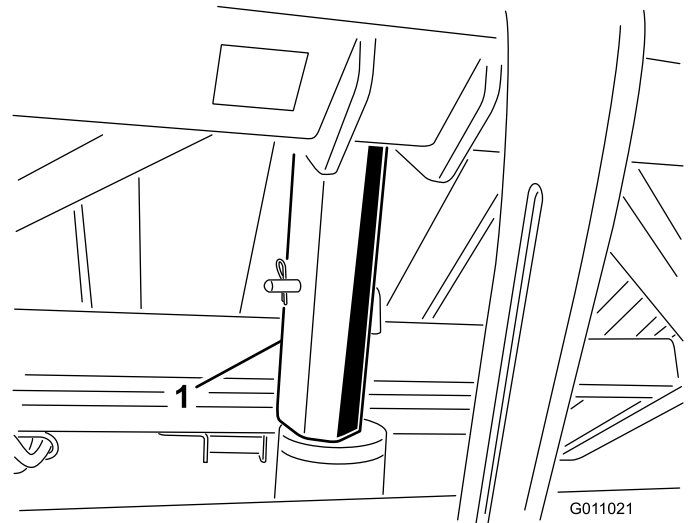

**Figure 25**
2. Remove the hairpin cotter and pin securing the safety support to the storage bracket on the sweeper frame (Figure 25). Remove the safety support.